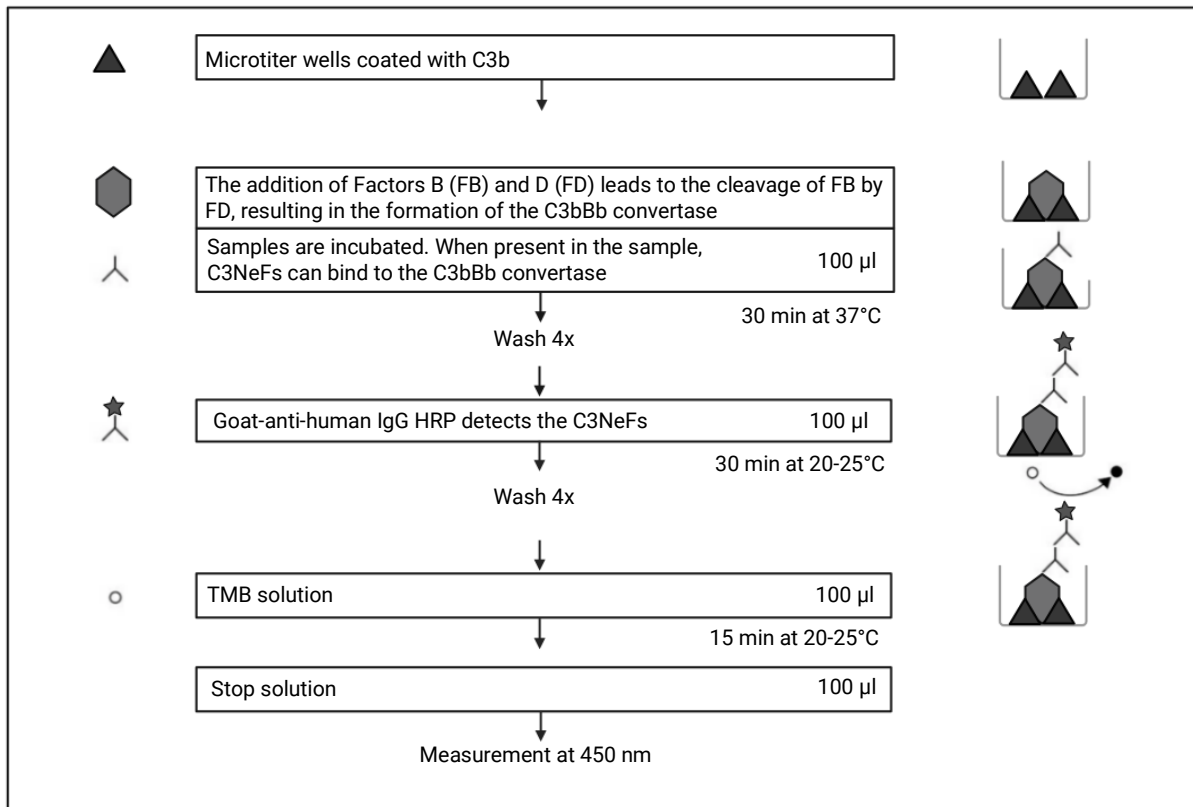

Figure 1. Schematic overview assay workflow
- The C3NeF detection ELISA is a qualitative enzyme-linked immunosorbent assay with a working time of ~1½ hours. See Figure 1 for a schematic overview of the assay workflow.